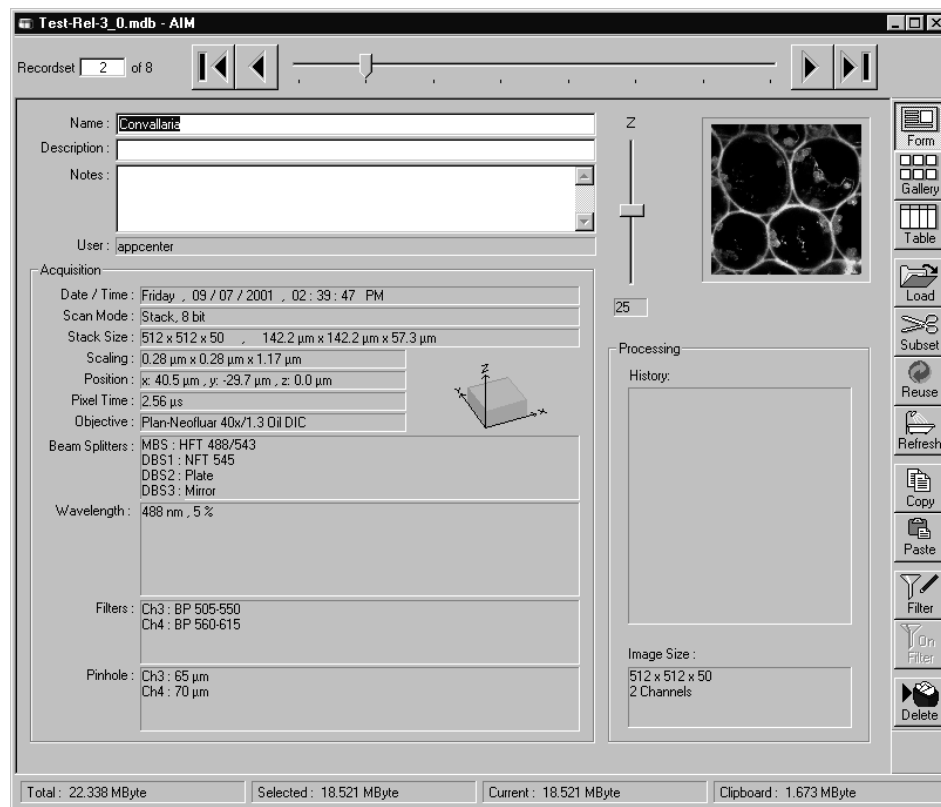

Fig. 5-16 Image Database window (Form display mode)
- Click on the **X** button in the title bar of the **Database** window (see Fig. 5-16) to close this window.